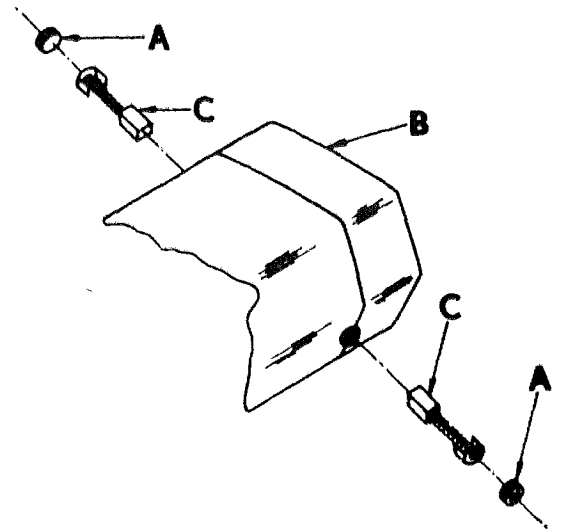

Fig. 29
1. Remove brush caps (A) from motor housing (B) with screwdriver. See Figure 29.
2. Remove brushes (C).